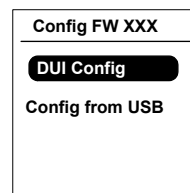

Figure 1-13 DUI Config screen
- j) After config firmware upgraded successfully, the following screen will appear on DUI (Refer to Figure 1-13 on page 1–10).
- k) Select the DUI Config as shown in Figure 1-13 on page 1–10.